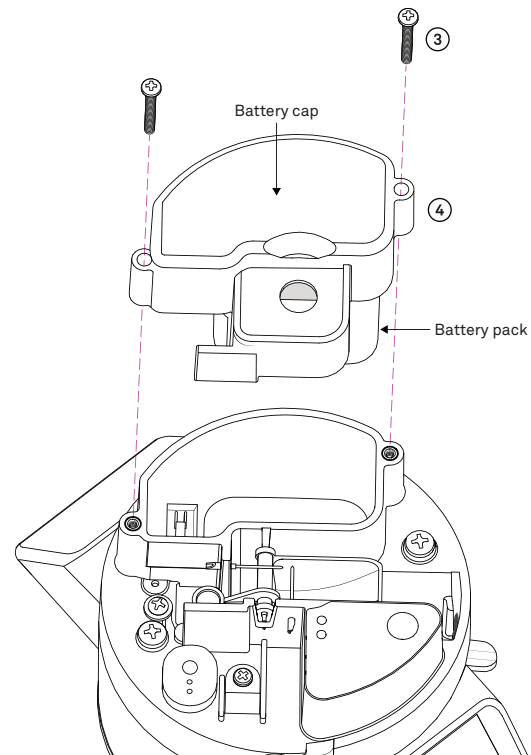

Figure 24 Battery cap removal
- 4. Life off the cap (Figure 24)